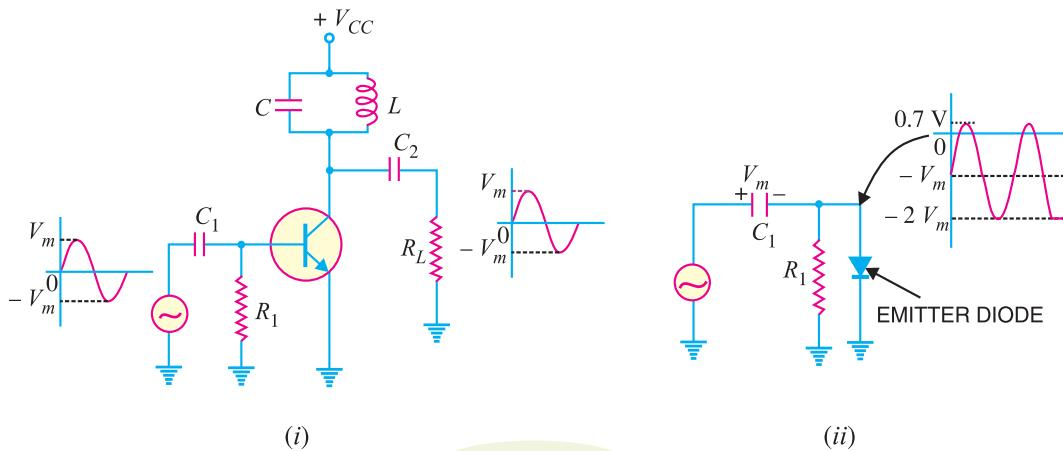

Fig. 15.18
- (ii) When an a.c. signal is applied, *clamping action* takes place as shown in Fig. 15.18 (ii). The voltage across the emitter diode varies between  $+0.7\text{ V}$  (during positive peaks of input signal) to about  $-2V_m$  (during negative peaks of input signal). This means that conduction of the transistor occurs only for a short period during positive peaks of the signal. This results in the pulsed output *i.e.* collector current waveform is a train of narrow pulses (Refer back to Fig. 15.17).